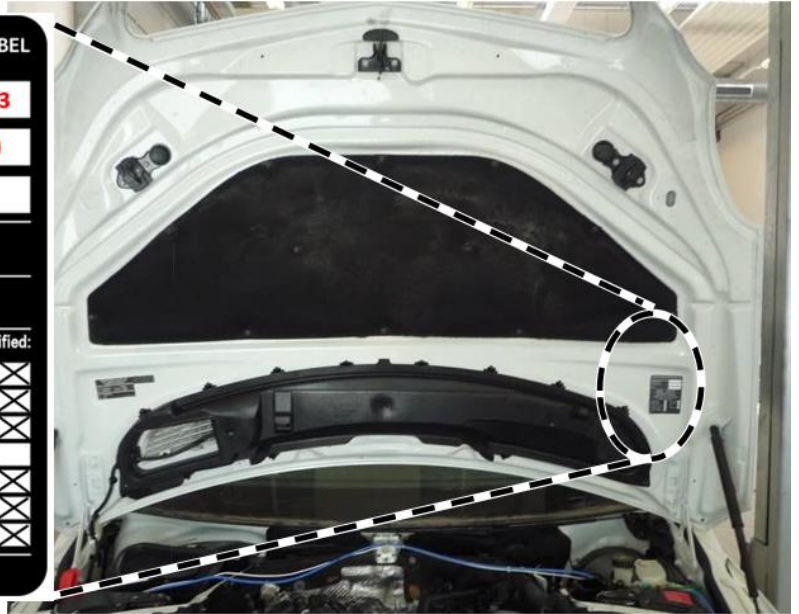

Figure 6
13. Clean the bonding surface of the hood and attach the adhesive label (A 000 584 63 15) (**Figure 6**).
i The fields on the adhesive label must be filled out correctly. Please use black permanent marker. Refer to (**Figure 6**) within the XENTRY procedure.